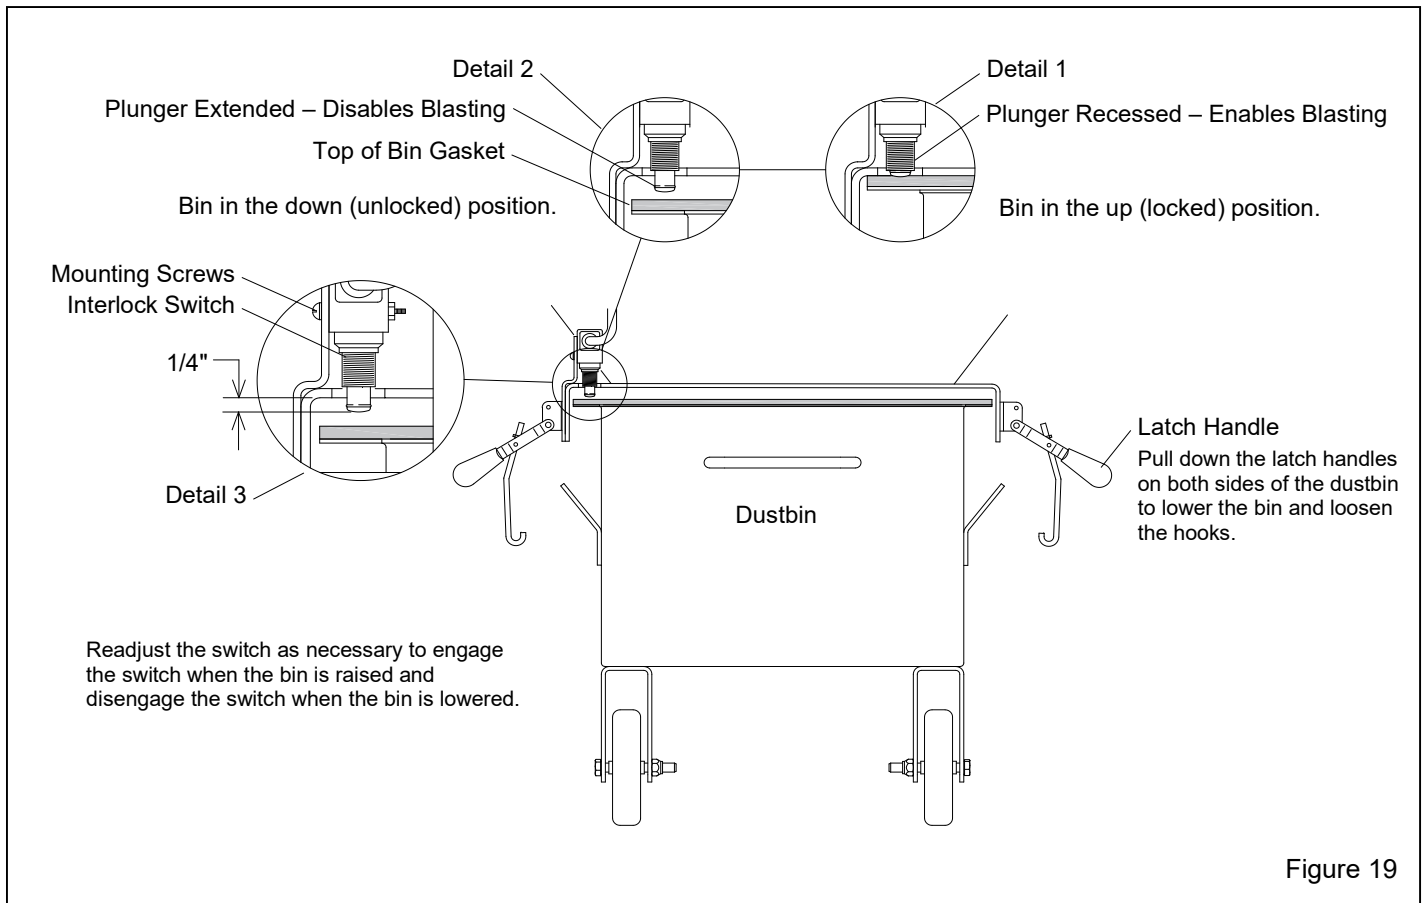

Figure 19
5.7 Dustbin Interlock – Figure 19
5.7.2 To enable blasting, the interlock switch must be engaged when the bin is closed (raised against the dust-collector hopper), as shown in the Detail 1 Circle in Figure 19. The interlock is set at the factory and does not normally require field adjustment unless parts are replaced. When adjustment is required, proceed as follows:
5.7.3 To disable blasting and permit removal of the dustbin, the top of the bin must clear the switch, as shown in the Detail 2 Circle in Figure 19.
5.7.4.2 Loosen the switch's mounting nuts. Move the switch up or down as necessary to obtain approximately 1/4" between the bottom of the hopper flange and bottom of the switch's plunger, as shown in the Detail 3 Circle in Figure 19.